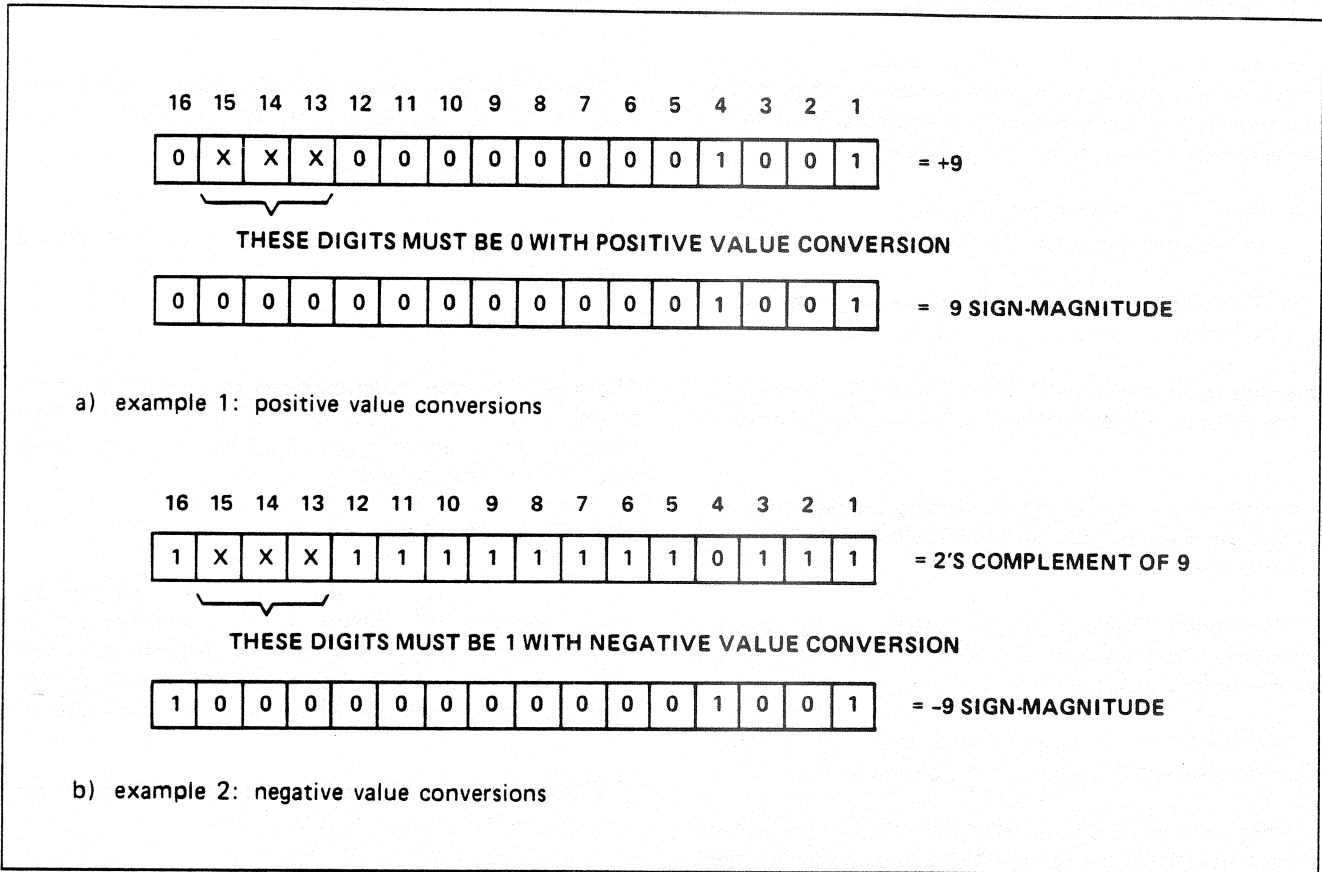

Figure AO-2. Analog Out Function Operation
5. Figure AO-2(a), shows the conversion of a positive binary number to a sign-magnitude number.
6. Figure AO-2(b), shows the conversion of a 2's complement number to a sign-magnitude number.
See the conversion examples of Figure AO-2.